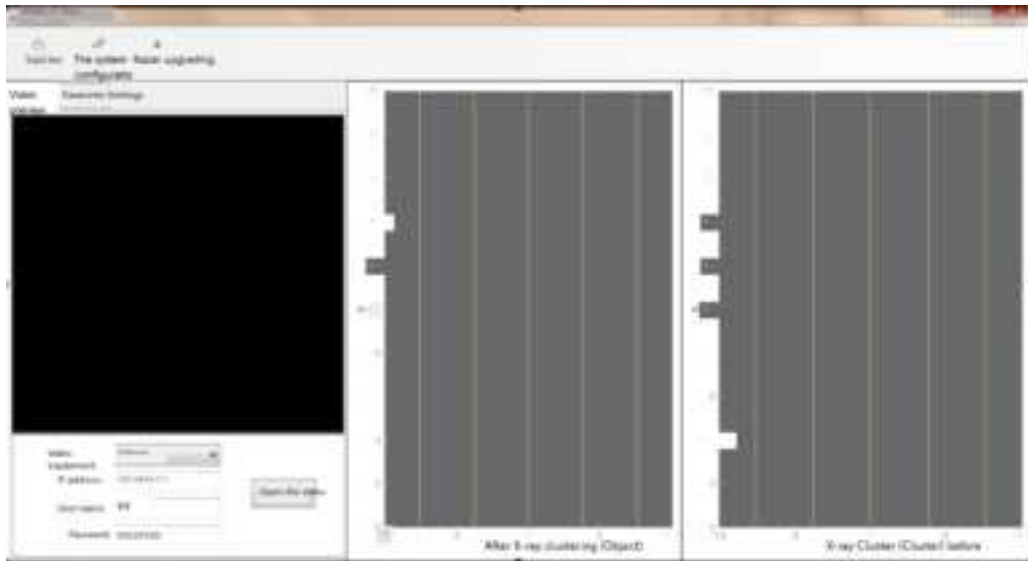

Fig. 6 Radar Upper Computer Interface
1) USB-TTL connects to the PC and opens the upper computer software. First, the configuration parameters are shown in Fig. 6. At the top left is MR62 test configuration parameters. Then click the Start button on the upper left side.